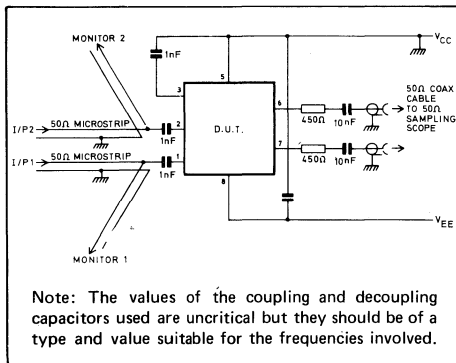

Fig. 3 Test circuit
- In practice, the 3.5kΩ resistors specified in the test circuit (Fig.3) are not essential; omission of these resistors will reduce the maximum supply current to 18mA.